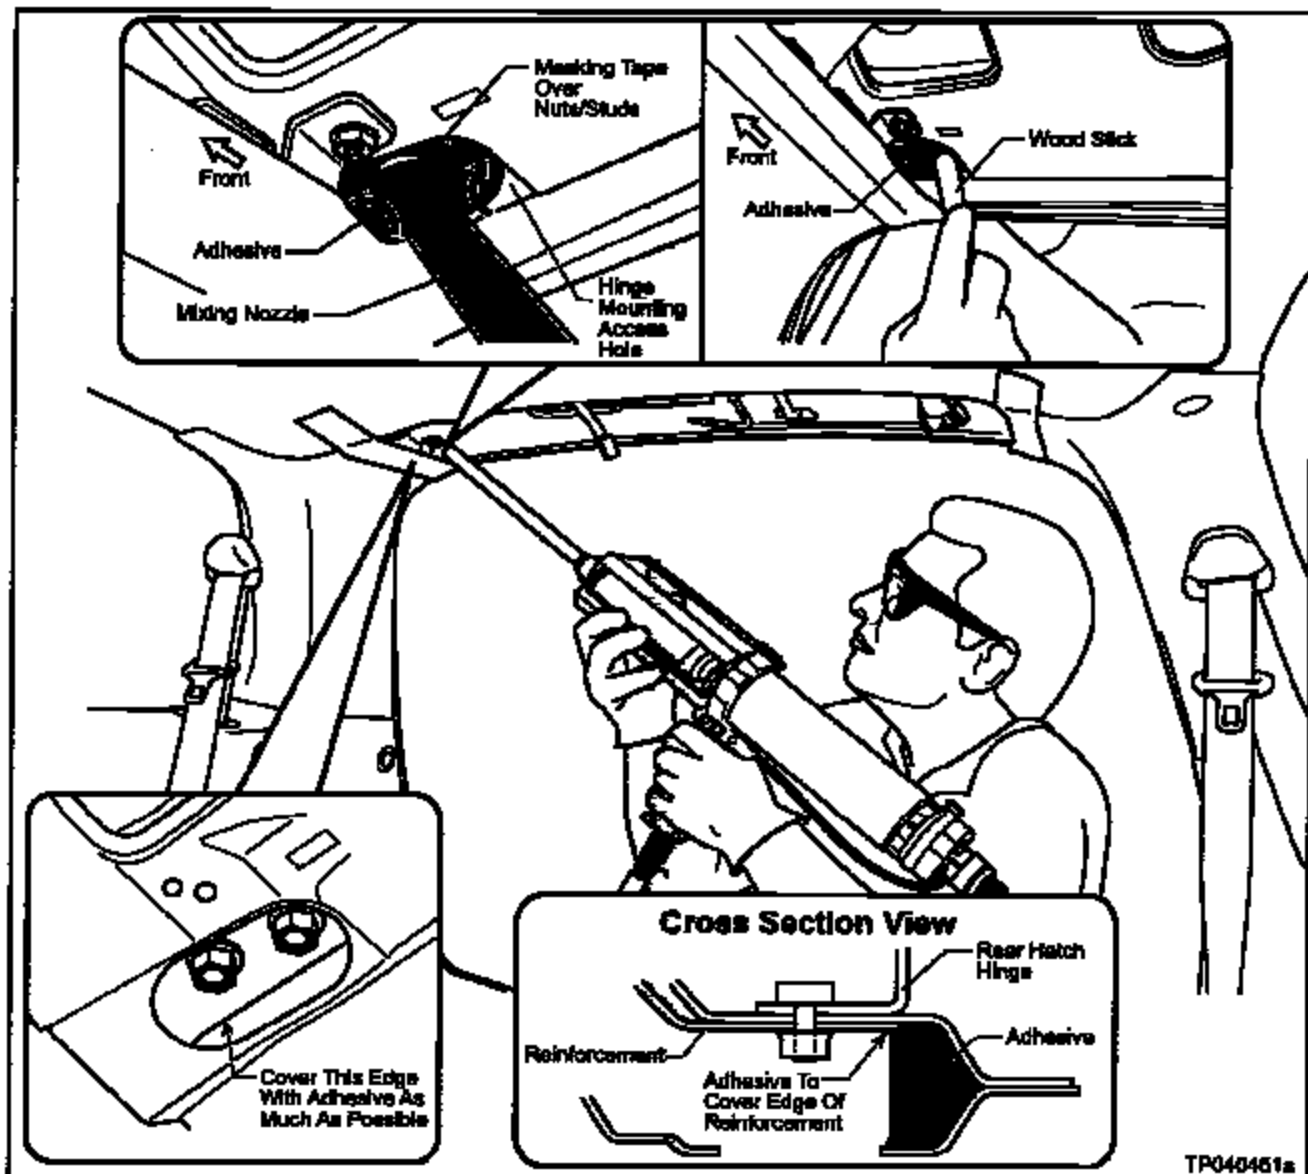

Figure A7
a. Going through the Hinge Mounting Access Hole, apply Adhesive until "Fill A" of the Cartridge is completely pushed out. See Figure A7.
- Make sure the Adhesive covers the edge of the Reinforcement (see Cross Section View in Figure A7).